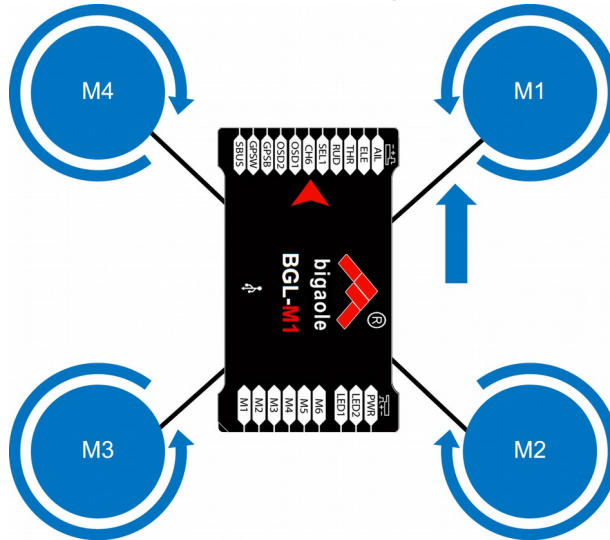
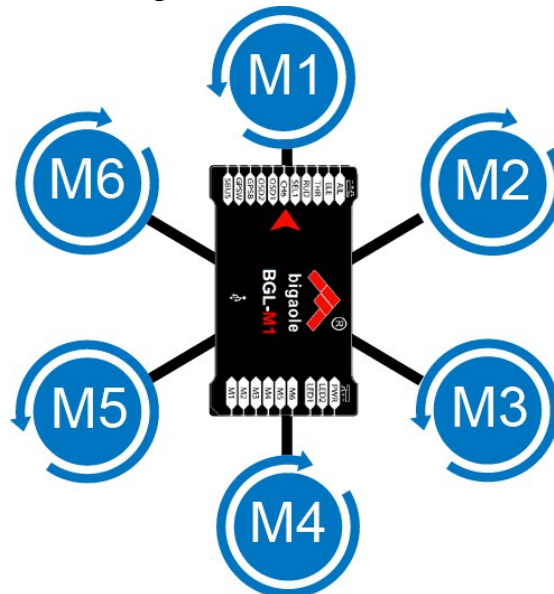

Figure 1: Four X font installation
Figure 4: Six X+ font installation
The following figure 1- Figure 4 is rotating direction schematic diagram for the four rotor, six rotor, X type, and + type.
- ◆ Please refer to the Four X font installation instructions in Figure 1 as below:
- ◆ Six X+ font installation instructions in Figure 4 as below: